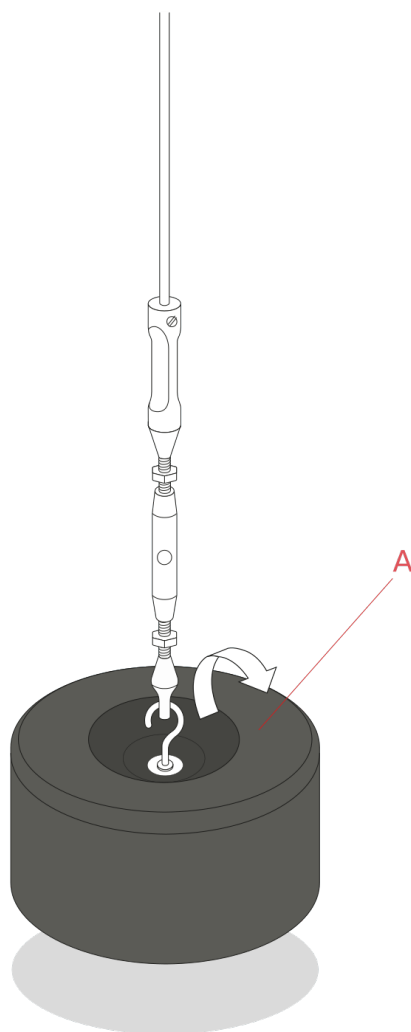

Fig.1
Hook the turnbuckle (B) to the counterweight (A). Regulate the turnbuckle (B) in a way that the counterweight (A) almost touches the floor and then fasten the locking bolts. Verify that the suspension wire is perpendicular. **WARNING!** Lifting up the counterweight will cause mechanical tension loss of the suspension wire, causing the tube and lamp support to fall down. (Fig.1 page 1)